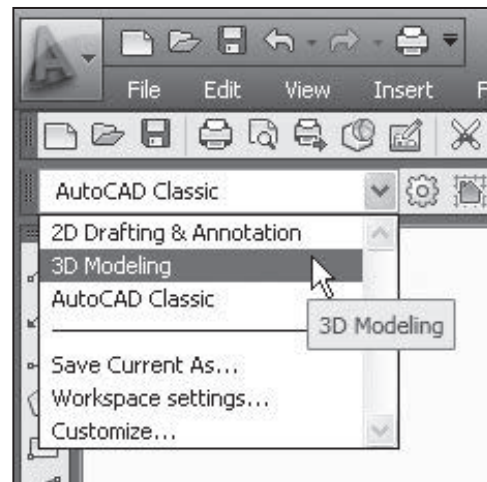

Fig. 3-7
1. In the **Workspaces** toolbar, pick the down arrow to the right of **AutoCAD Classic** and click **3D Modeling**, as shown in Fig. 3-7.